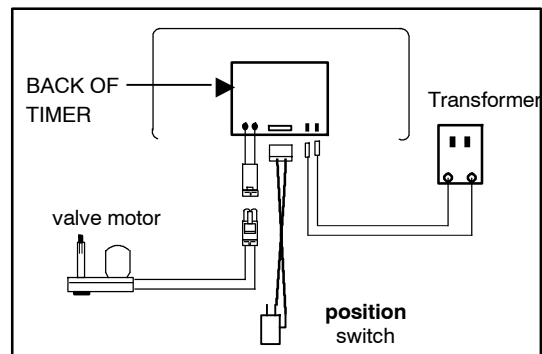

Figure 2
4. Carefully disconnect wiring harness from position switch. **Figure 2.**
5. Carefully unplug the motor terminals from the back of the electronic control board. **Figure 2.**
19. Carefully reconnect the motor terminals to the back of the electronic control board. Reattach the position switch wire harness onto the position switch. **Figure 2.**